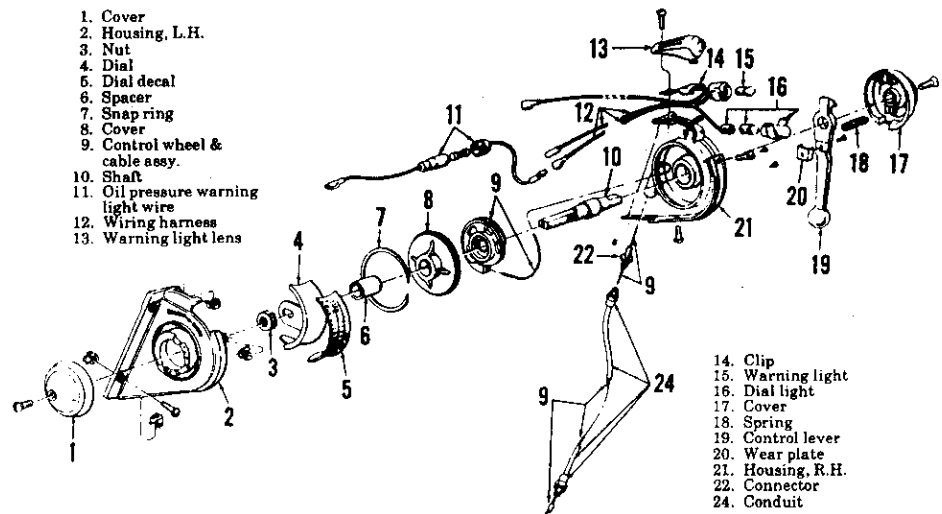

Fig. 312—Exploded view of transmission speed (gear ratio) selector assembly.
283. SPEED SELECTOR ASSEMBLY. To remove the speed selector assembly, refer to paragraph 245. To disassemble, refer to exploded view in Fig. 312 and proceed as follows:
First, remove the two side covers (1 and 17) and the three Phillips head screws securing the left hand selector housing (2). Remove the hex nut (3) from the shaft (10) and remove the snap ring (7) and retainer plate (8) to expose the wheel and cable assembly. Note: Impact torque is usually required to loosen nut (3) without twisting the shaft (10). Further disassembly procedure is obvious from inspection of unit and reference to exploded view in Fig. 312. To reassemble, reverse disassembly procedure. Adjust the speed selector assembly as outlined in paragraph 237 after reinstalling assembly as in paragraph 245.